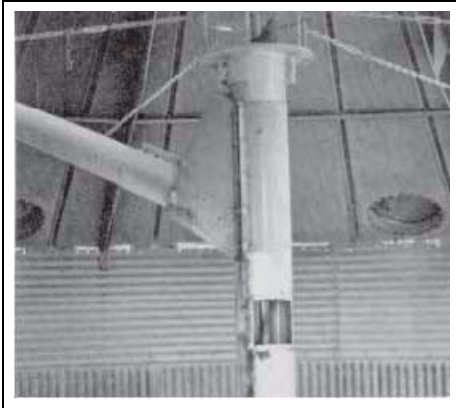
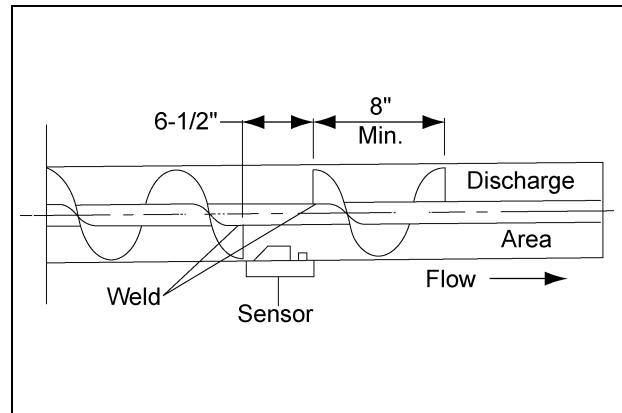

Figure 16A
Figure 16B
1. Look at the discharge tube and determine where the sensor can be best located. (See Figure 16B.) There must be at least 8" of flighting left on the discharge auger after the sensor to move the grain away. On center vertical unloading systems, the sensor is mounted near the top but NOT directly below the attaching incline auger. Use the same dimensions as described for the horizontal. (See Figure 16A and Figure 16B.)
3. Weld the discharge auger flighting to the shaft at each end of the 6-1/2" opening as shown in Figure 16B. After the flight is welded at these points, cut-out 6-1/2" of the flighting from the discharge auger.